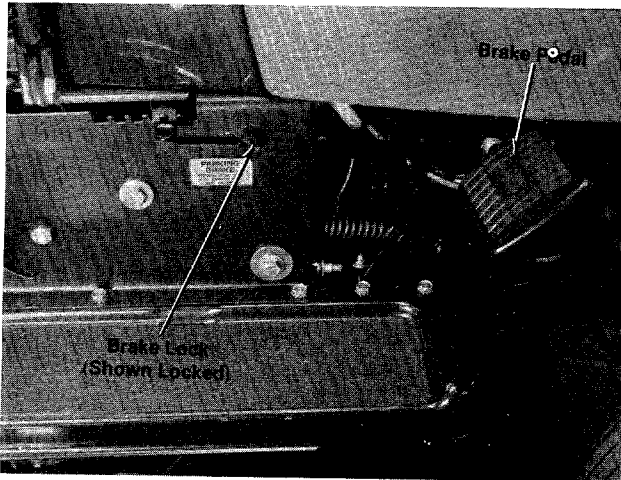

FIGURE 8.
c. Brake. The brake pedal is located on the right hand side of the mower and is operated by depressing it with your right foot. See figure 8.
d. Brake Lock. The brake lock is located on the right hand side of the mower. To lock the brake, depress the brake pedal and lift up the lock button. The pedal will stay depressed. To release, depress the pedal. See figure 8.